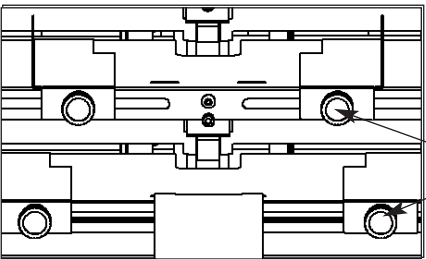

Figure 5
1. Loosen the thumb knobs on the paper guides for the appropriate shelf (see Figure 5).